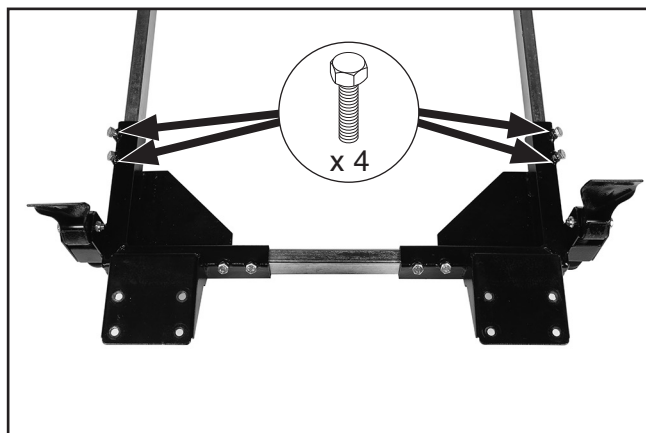

Figure 16. Rails fastened to brackets (machine removed for clarity).
- Slide other side rails into corner brackets from **Step 4**. Secure rails to corner brackets with (4) M8-1.25 x 16 hex bolts, as shown in **Figure 16**.